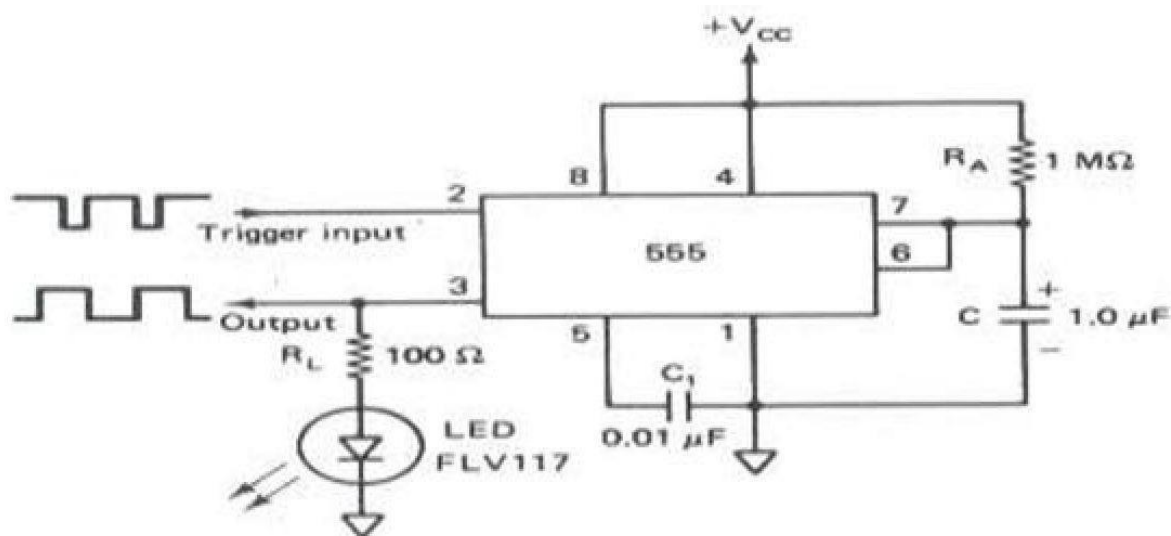

Fig 2.8 Monostable multi vibrator as a Pulse stretcher
Figure 2.8 shows a basic monostable used as a pulse stretcher with an LED indicator at the output. The LED will be on during the timing interval  $t_p = 1.1R_A C$ , which can be varied by changing the value of  $R_A$  and/or  $C$ .
**Free-running ramp generator:** The astable multivibrator can be used as a free-running ramp generator when resistors  $R_A$  and  $R_3$  are replaced by a current mirror. Figure 2.8(a) shows an astable multivibrator configured to perform this function. The current mirror starts charging capacitor  $C$  toward  $V_{cc}$  at a constant rate.